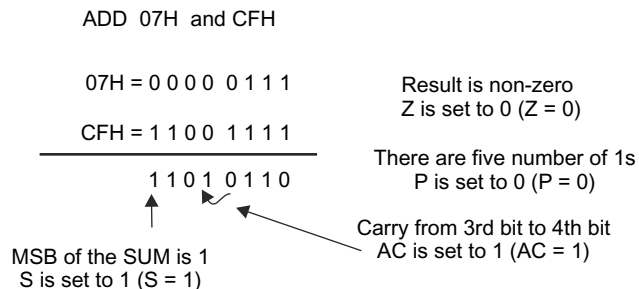

Fig. 2.8 Status of different flags after addition of 07H and CFH
When 07H and CFH are added, the result is non zero. The Z flag is set to 0. There is a carry from 3rd bit to 4th bit. Therefore, the auxiliary carry (AC) flag is set to 1. As the MSB of the sum is 1, the S flag is set to 1. Since there are five numbers of 1s in the result, the parity flag (P) is set to 0. Figure 2.8 shows the status of different flags after addition of 07H and CFH.